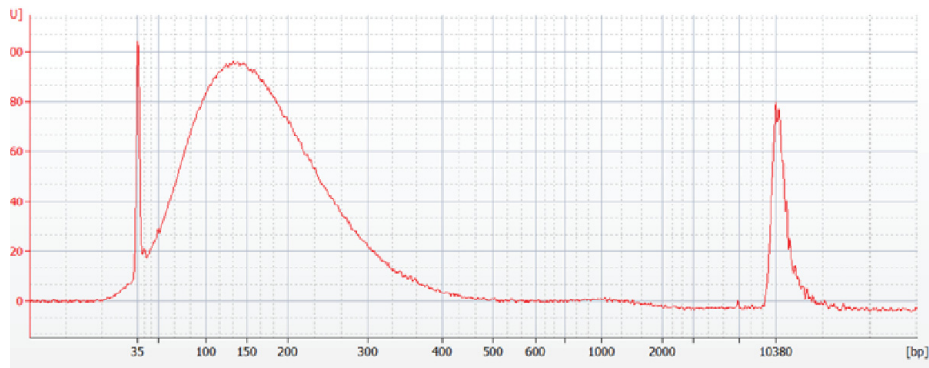

Figure 10 Analysis of sheared DNA using a High Sensitivity DNA Bioanalyzer assay.
- 5 Verify that the electropherogram shows the peak of DNA fragment size positioned between 120 to 150 bp. A sample electropherogram is shown in Figure 10.